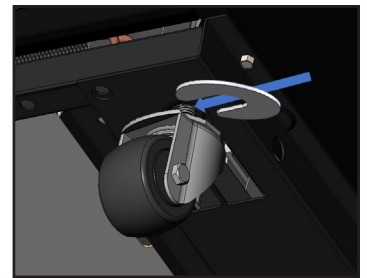

Fig. 7. Install shim(s).
2. Install the desired number of shims. If more than one shim is used, turn the slots at a 90° angle to each other, so the slots do not align. See figs. 7 and 8.